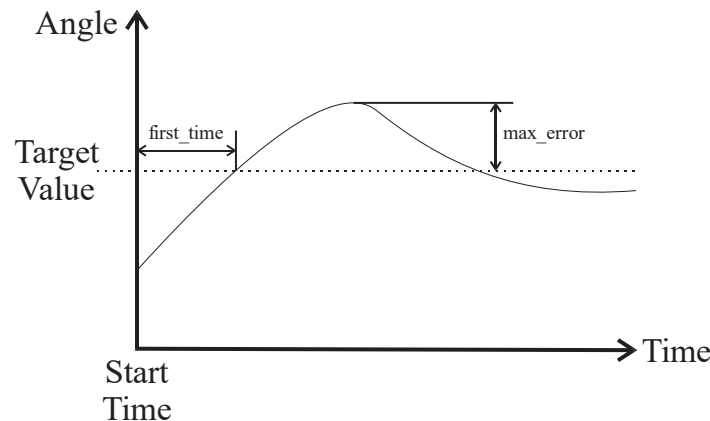

Figure 8: Accuracy Measures
3. The code executes the algorithm and records the time it takes to first hit the target value in milliseconds in `first_time` and the maximum error from the target value after the first time it is encountered in the variable `max_error`. See Figure 8 for a graphical description of these values. These two values are both printed to the Debug Stream.